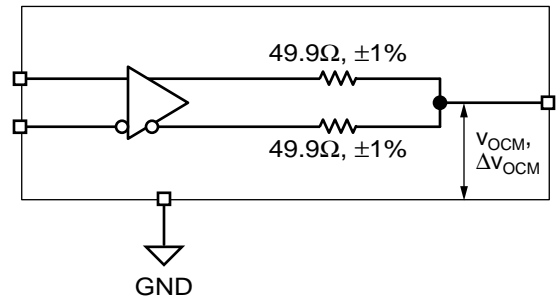

Figure 4. LVDS Common Mode Measurement
**Note 9.** Measured as per Figure 4.